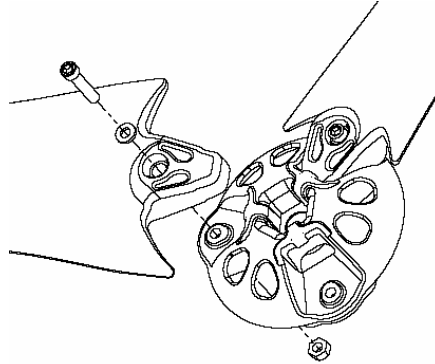

Fig. 15
51. Mount the blades to the blade hub as shown in **Fig. 15**. Place a nylock nut (item 6 in exploded view) in the hexagonal detent on the back of the blade hub while positioning the blade on the hub. The blades must be “tilted” into position on the hub and can only be installed in one orientation. Place a washer (item 4) on a ¼-20 socket screw (item 3) and coat the screw threads with Tef-Gel. Pass the screw through the base of the blade and screw it into the nylock nut. Tighten the screw to 10 ft-lbs (13.6 Nm). Repeat for the remaining two blades. Nylock nuts may only be used one time; replace after each use.